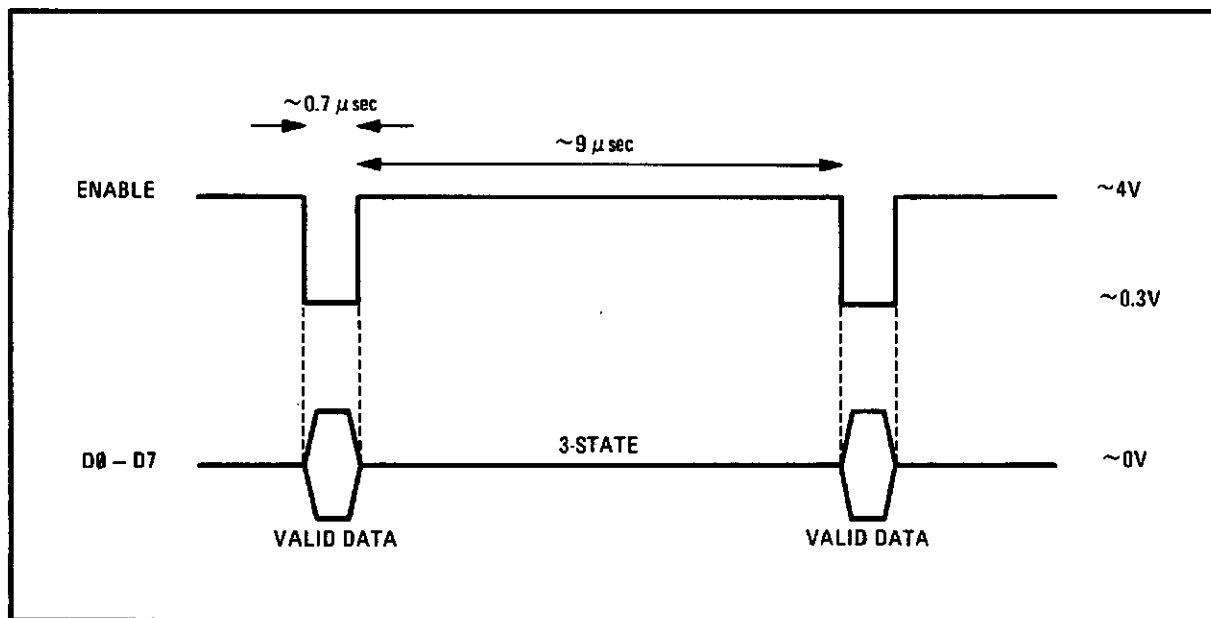

Figure 8-3. Hex Addressed Fast Read — Timing Diagram
- HEX ADDRESSED FAST READ, [M5], provides an operator-initiated check for verification of the data bus, in which the addressed device is clocked in real time. Latch outputs can be traced from the onboard location back through the data bus to the microprocessor. At each buffer, verify TTL level response to the enable pulse. Enable line waveforms are shown in Figure 8-3.